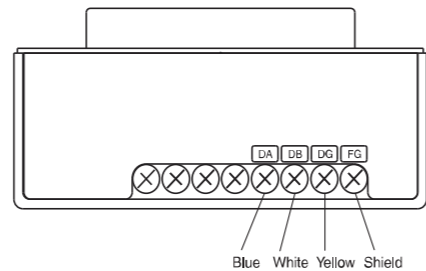

Fig.1
- Be sure to connect a signal line to its dedicated terminal. (Refer to Fig.1)